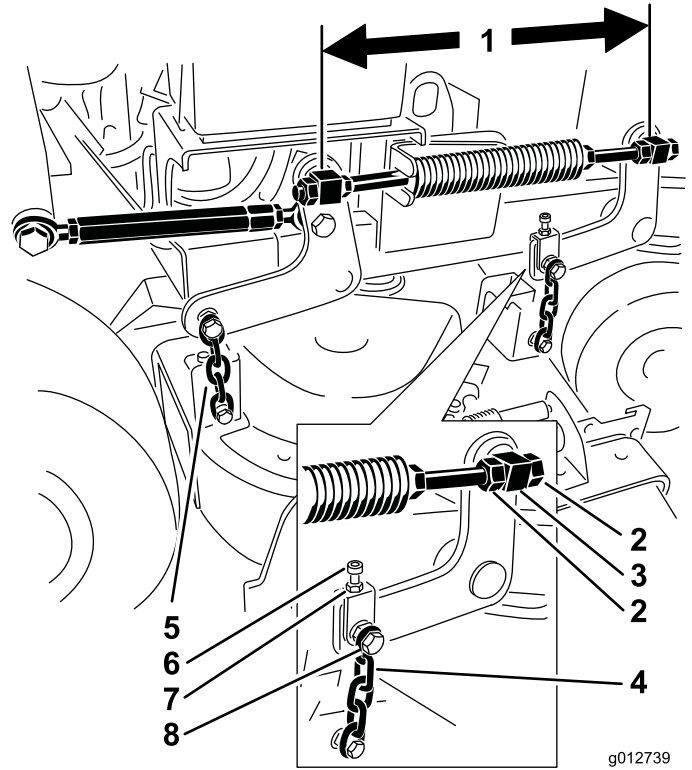

Figure 84
6. Check the distance between the swivels, measure at the center of the swivels (center-to-center length) on the threaded rod. This length needs to be 19-1/2 inches (49.5 cm) for 36in mower decks and 17-3/16 inches (43.7 cm) for 40in mower decks (Figure 84).
9. Use the jam nuts at the front swivel to adjust the length between front and rear swivels on that side (Figure 84).
11. Use the adjustment bolt to get equal tension on both front chains (Figure 84).
5. Loosen the nut on the upper chain bolt and the jam nut on the adjustment bolt (Figure 84).
6. Use the adjustment bolt to achieve 1/4 to 3/8 inch (6 to 10 mm) lower in front at **A** than in the rear at **B** (Figure 84).